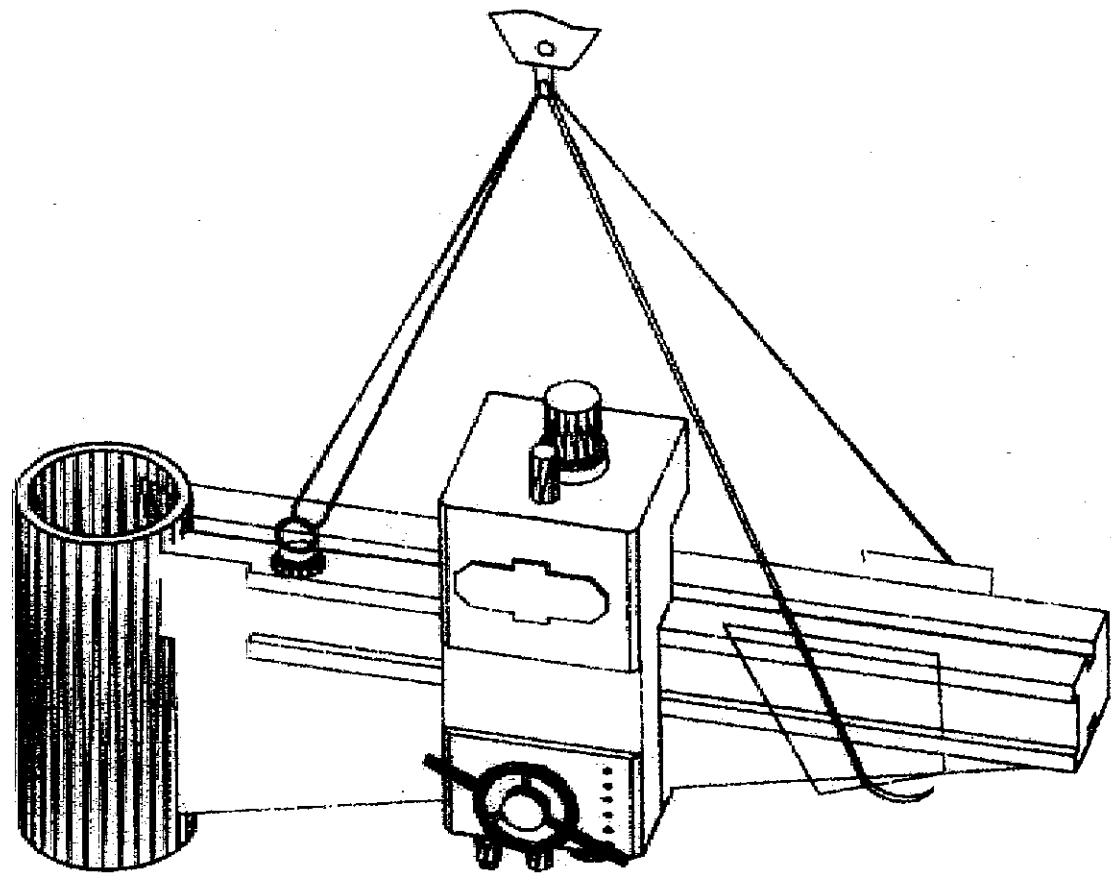

Fig. 2.11 Handling of the Arm
2.4.4 Mount the arm on the column, at first, rope the arm properly as shown in Fig. 2.11, the arm must be in a balanced state when hoisting. Before putting the arm on the outer column, carefully inspect and remove the dirt in the big hole of the arm, wipe the outer surface of the column clean and apply lube oil on it. Before the arm is sheathed on the column, be careful to align a key on the arm with a keyway on the column, then the sheathing is carried out slowly. After the arm is sheathed on the column, place a shim with a height of 50~100 mm between the arm and the nosing of the lower part of the outer column. Finally remove the hoisting ring on the arm, then screw the removed hoisting ring threaded hole plug. Note: At this time the arm is not in a clamping state, you must prevent the arm from rotate, pay attention to safety!